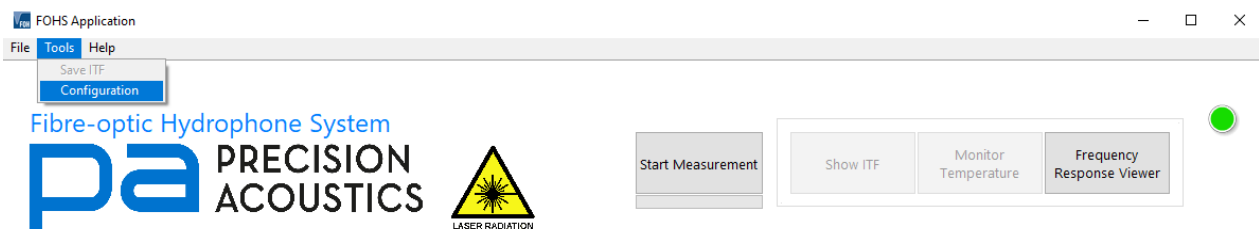

Figure 17. Location of configuration menu.
3) Open the FOHS Application. Head to tools > Configuration as depicted in the picture below (Figure 17).